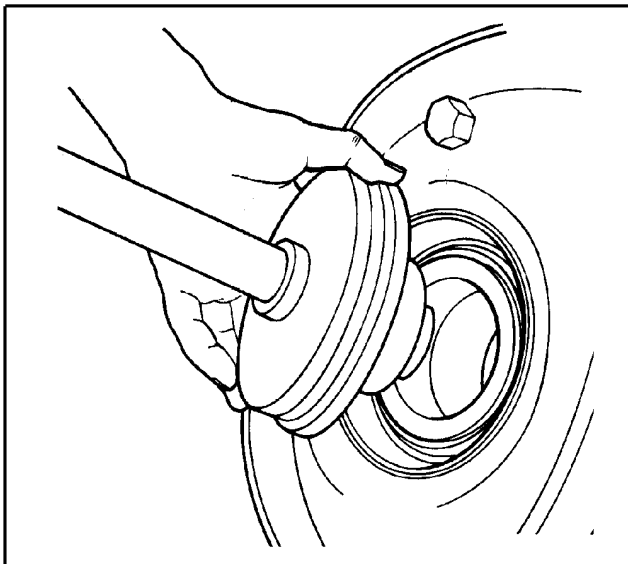

Figure 28 Installation of Unitized Seal Into Hub
4. Install tool, centering into bore of inner bearing cone (Figure 28). Start seal into bore. Be sure seal is not cocked; tap tool handle lightly to start seal into hub bore. Check to see that seal is not cocked.